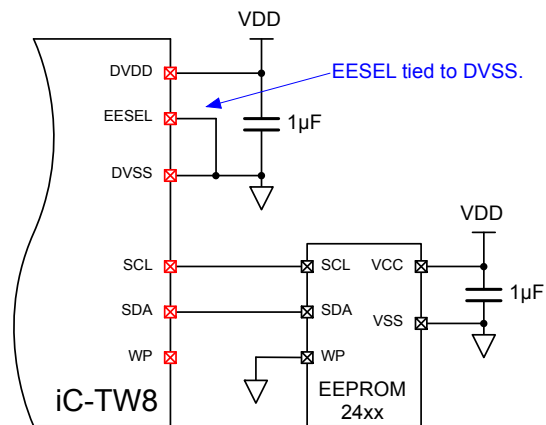

Figure 7: EEPROM Connection
The iC-TW8 requires a 24xx02 through 24xx16 family I²C EEPROM for storage of sensor calibration data (offset, gain, etc.). The EEPROM connects directly to the iC-TW8 via a dedicated I²C communication channel using SCL (pin 27) and SDA (pin 28) as shown in Figure 7. No external pull-up resistors are required. EESSEL (pin 4) of the TW8 must also be connected to DVSS as shown.
In pin configuration mode, the Write Protect (WP) input of the EEPROM is not controlled by the iC-TW8. WP must be grounded (disabled) during configuration to allow the iC-TW8 to write the auto-adapted parameters to the EEPROM. In operation, WP can be left grounded (write protection disabled) as shown in Figure 7, or connected to DVDD by additional circuitry (such as a jumper) for parameter protection.